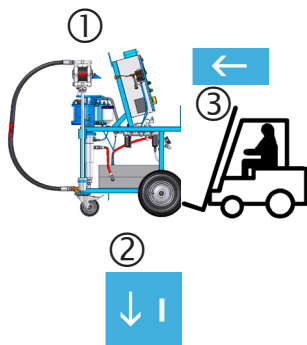

Figure 3.1
- The device must only be lifted by the lifting and lashing points provided for this purpose, (Figure 3.1, Pos.1).
- When using a forklift truck make sure that the lifting fork is long enough (at least 100 cm). The lifting fork must only be inserted into the rack from the front (towards the control cabinet) and through all and fork openings, (Figure 3.1, Pos.3).
- Secure the load on the transport vehicle against slipping and falling off, (Figure 3.1, Pos. 2).
- At the place of use apply the parking brake for the wheels, (*Figure 3.1.*), Pos. 2.